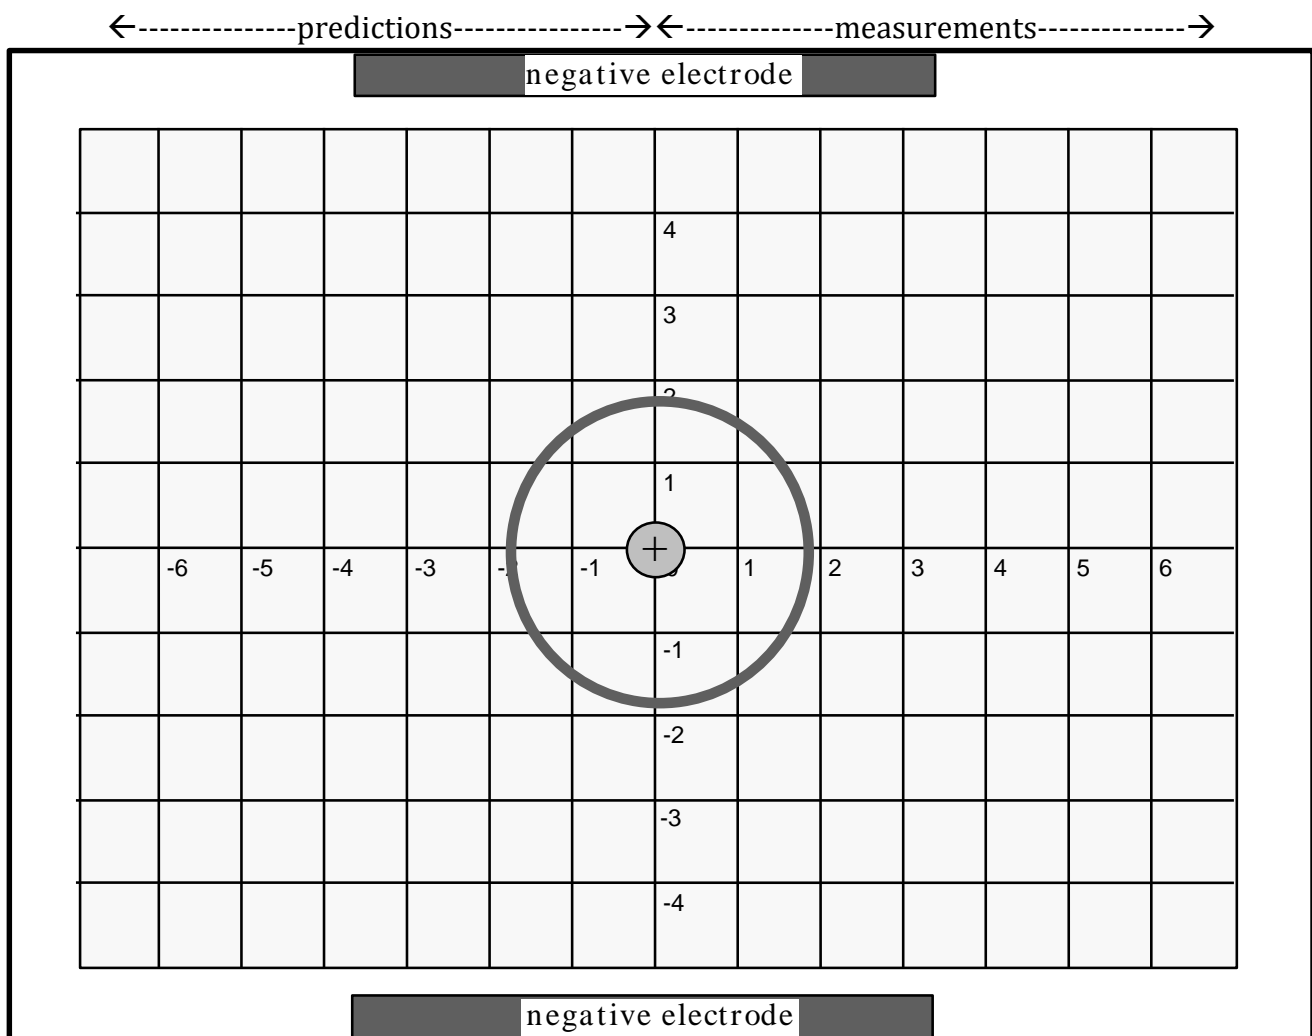

Figure 6. Centered positive electrode
Suppose that instead of attaching the charge to the ring, you connected it to the centered, solid dot electrode as in Figure 6. Sketch the resulting electric field on the left side of this figure for this case. Be sure to include the regions inside and outside of the ring.
- Follow your own procedure now to explore the configuration with your potential probes. From that data, deduce the electric field and sketch it (in a new color) on the right side of Figure 6. Include the region inside the ring.